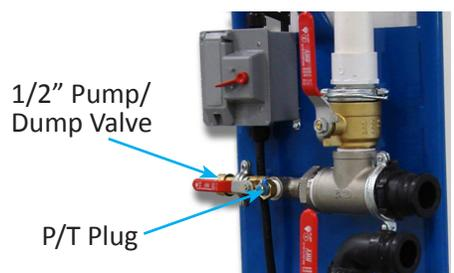

Figure 7: 1/2" Pump & Dump Valve
- Insert pressure gage with large dial face with a P/T adapter (such as Geo-Flo P/N 3565) into P/T port on flush cart. Close 1/2" pump & dump valve (Figure 7).